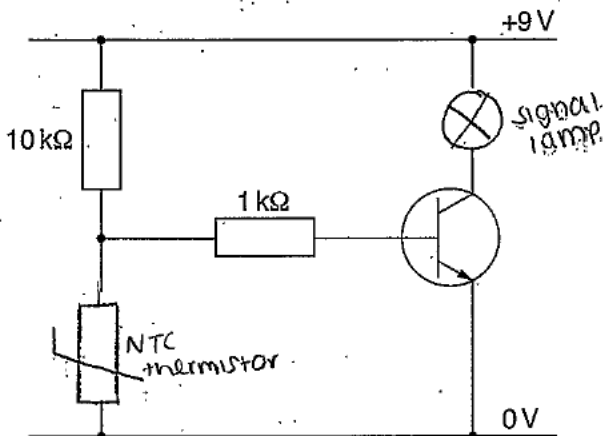

Fig. 1
- (i) Complete the circuit diagram in Fig. 1 using an NTC thermistor as an input transducer and a signal lamp as an output transducer. [2]